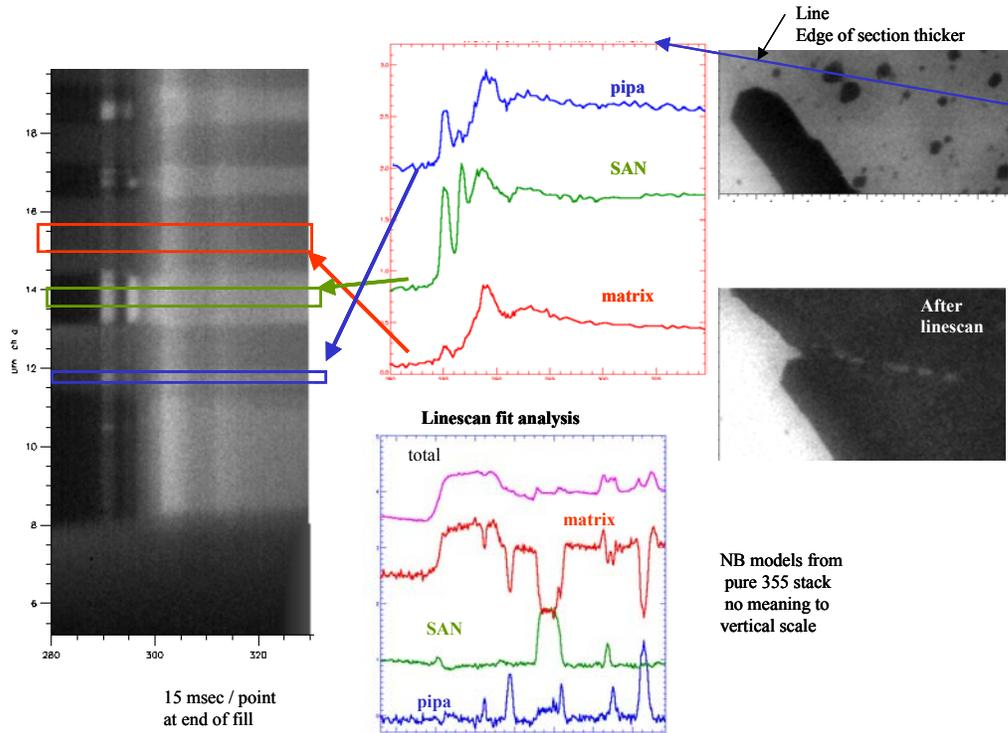

Fig. 3.7 Linescan across indicated morphology of Dow#355 sample.
10.25 *Recording linescans* (**Fig 3.7**)